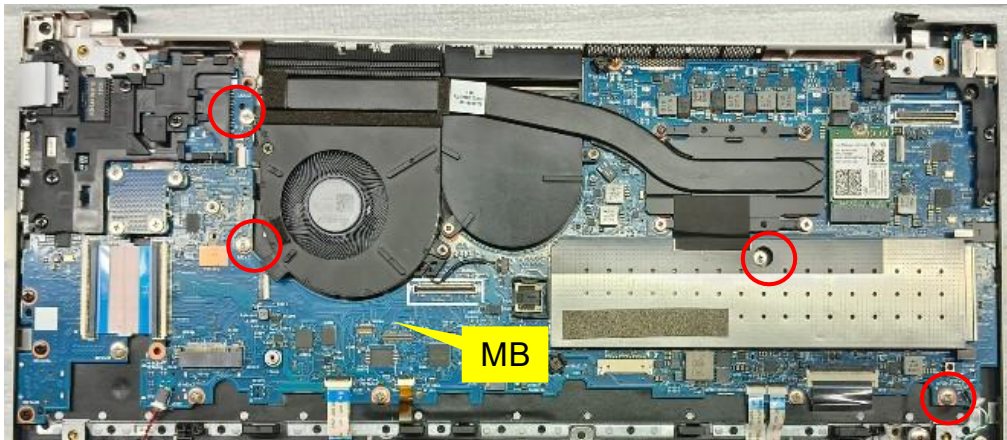

Figure 1
1. Remove MB screws *4. (Figure 1)